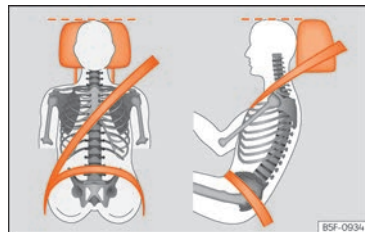

Fig. 19 Correct belt web and headrest positions
your head and under no circumstances below eye level. Keep the back of your neck as close as possible to the headrest >>> Fig. 19.
- Adjust the seat lengthwise so that you can fully step on the pedals with your knees slightly bent and there is a distance between the knee area and the instrument panel of at least 10 cm (4 inches) >>> Fig. 19.